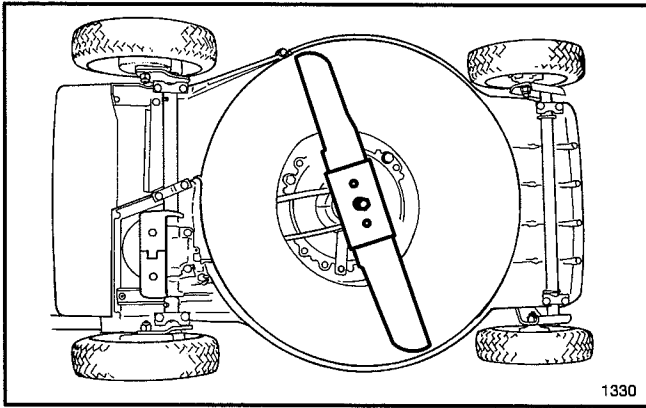

Figure 27
3. Tip mower on its left side (Fig. 27). Avoid rotating blade because starting problems may result.